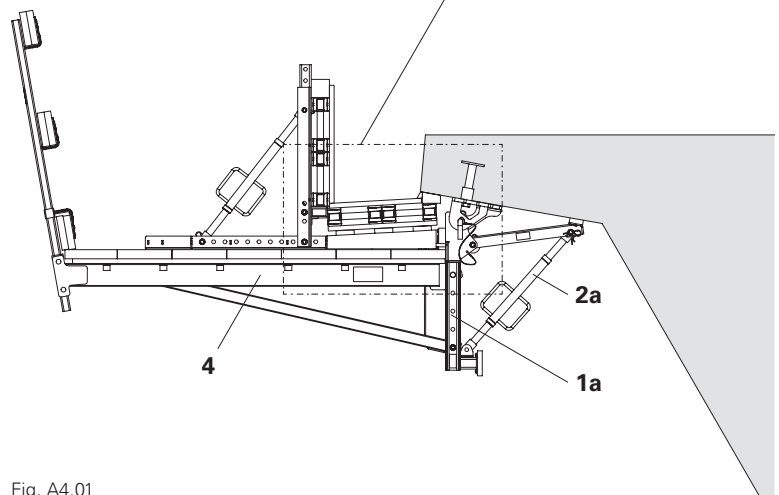

Fig. A4.01
- Kicker AV 82 (**2a**) is always connected to the base of Bracket Post VGK 70 (**1a**) by means of bolts and cotter pins. (Fig. A4.01)
- Mount Platform Cantilever Beam VGK 170 (**4**) in the top and bottom holes of Bracket Post VGK 70 (**1a**). (Fig. A4.01)